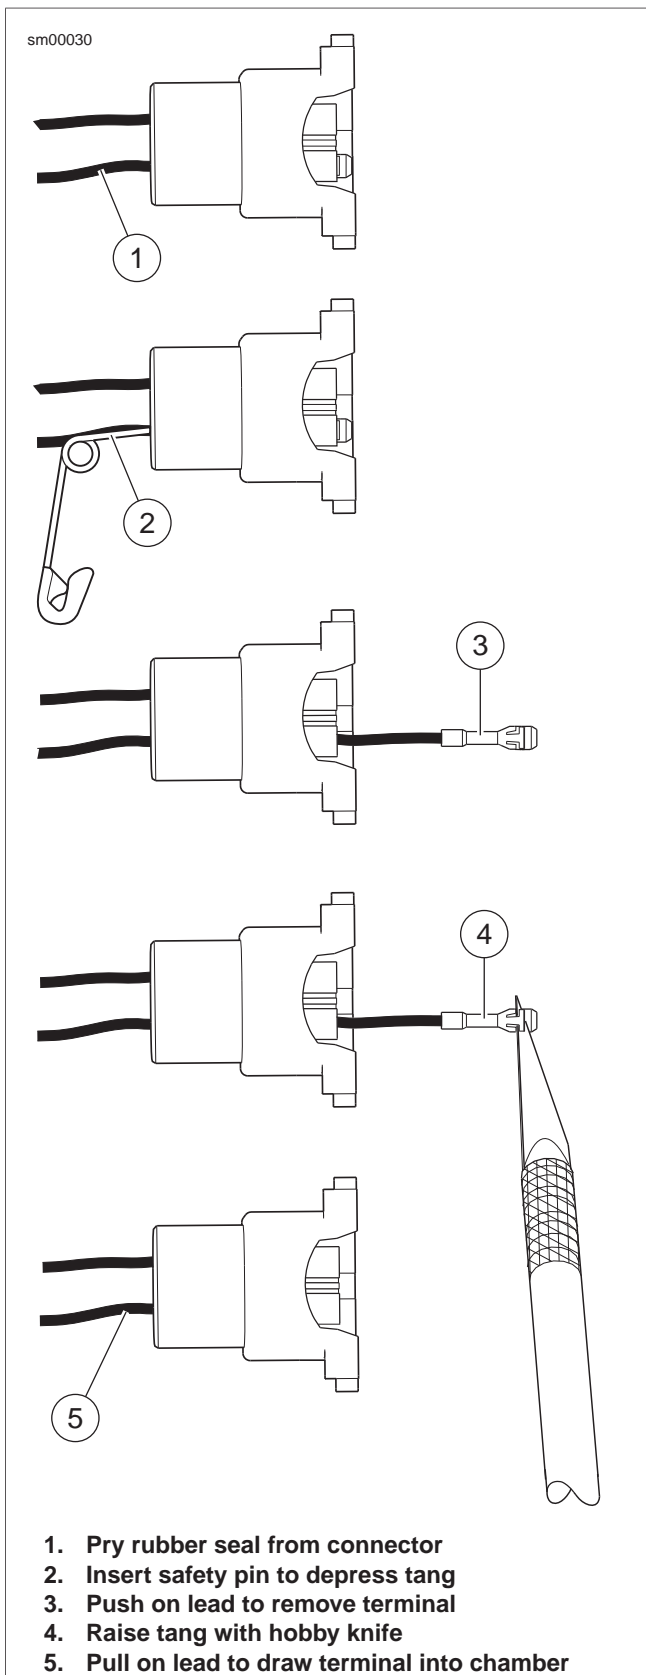

Figure A-26. 280 Metri-Pack Connector: Remove/Install Socket Terminal
1. See Figure A-26. Pry rubber seal from wire end of connector and move seal down wires (1) toward conduit. Hold the connector so that the wireform is facing down.
2. Looking into the wire end of the connector, insert the point of a safety pin (2) between the top of the terminal and the inside chamber wall.
1. See Figure A-26. Using a thin flat blade, like a hobby knife (4), carefully bend the tang outward away from the terminal body.
2. Gently pull on the wire lead (5) to draw the terminal back into the chamber. The tang faces opposite the wireform as it enters the chamber.